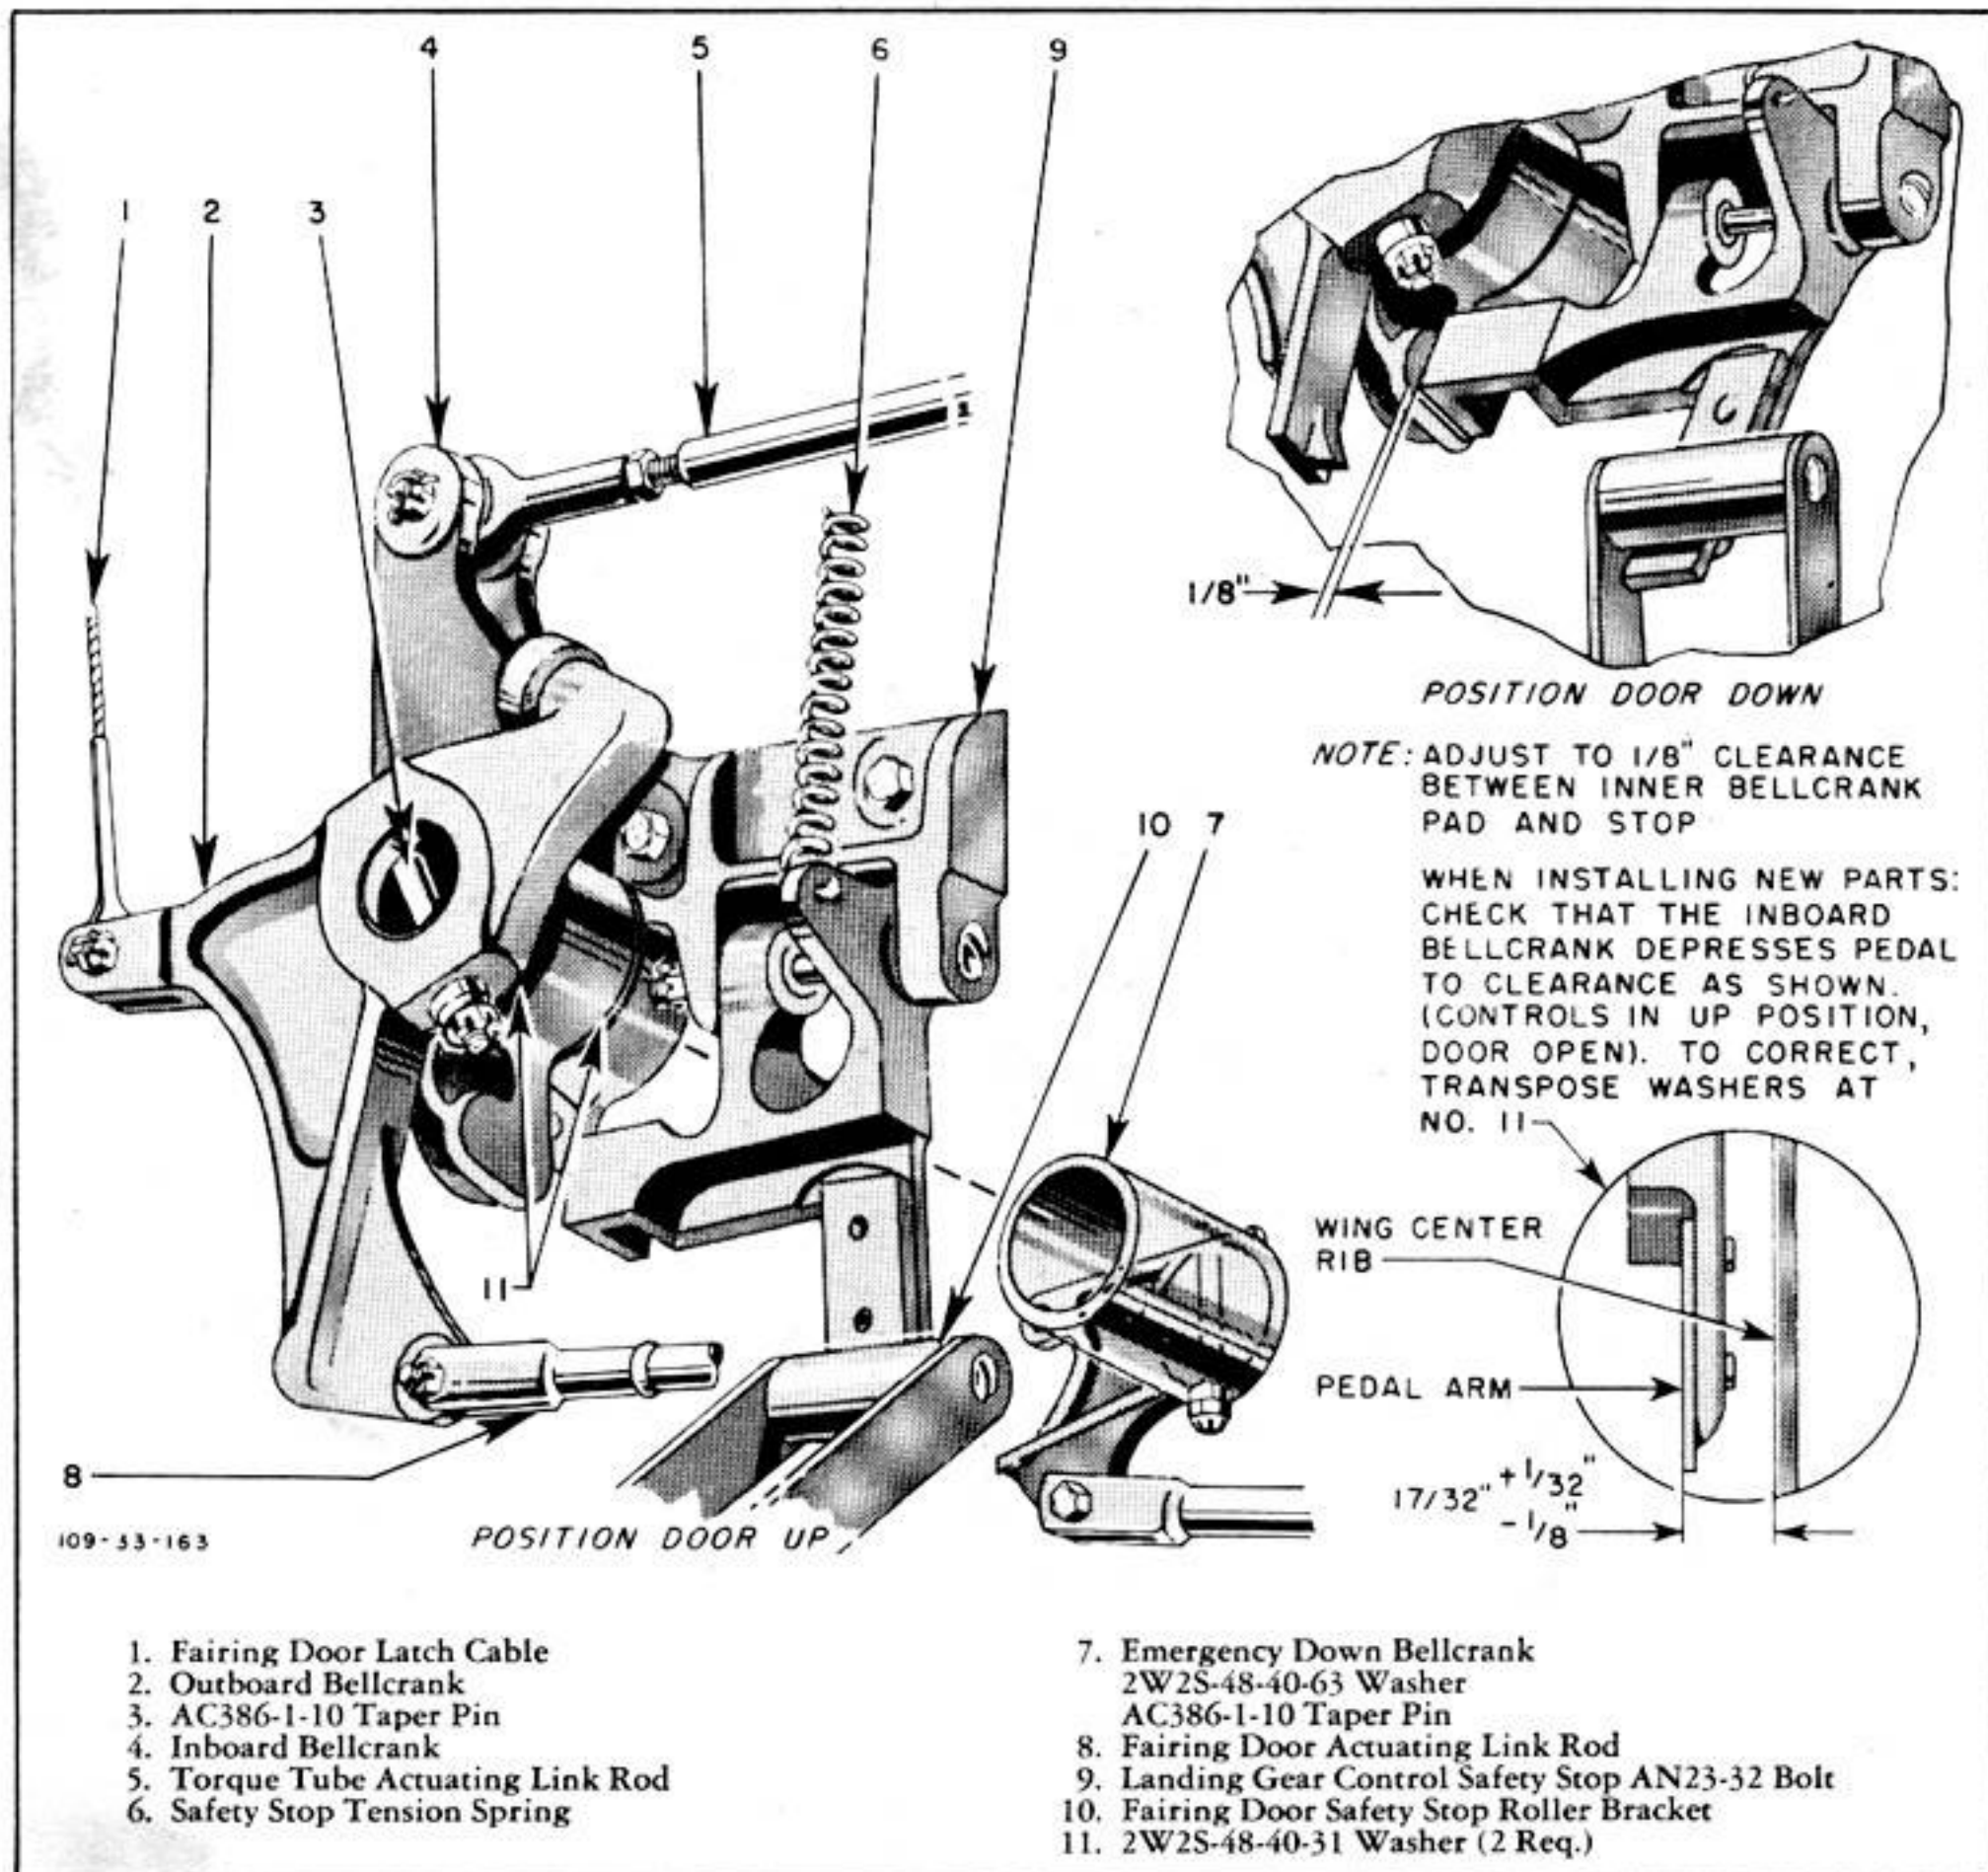

Figure 125—Landing Gear Control Torque Tube and Safety Stop Assembly
(d) Disconnect one end of the landing gear control safety stop spring. (See paragraph 5. c. (4) and figure 125.)
(a) DESCRIPTION.—The landing gear control safety stop is a part of the torque tube assembly on the left side of the wing center rib. The safety stop prevents the landing gear control handle from being moved from "DOWN" to "UP" unless the left main gear fairing door is closed, thus preventing main landing gear from retracting on to the fairing doors before they have completed the gear down cycle of operation. The safety stop is a spring-loaded hinged stop that blocks the inner bellcrank of the torque tube assembly from moving to the up position. A bracket on the left fairing door depresses a pedal on the safety stop when the fairing door moves up. This permits free travel of the inboard torque tube bellcrank. (See figure 125.)
(b) DISCONNECTING LANDING GEAR CONTROL SYSTEM SAFETY STOP SPRING.—When landing gear system adjustments require unrestricted travel of the control linkage, disconnect tension spring on the safety stop. While stop is inoperative, be careful to complete the main landing gear operating cycles before repositioning the control handle. Reconnect the safety stop spring when adjustments are completed. (See figure 125.)